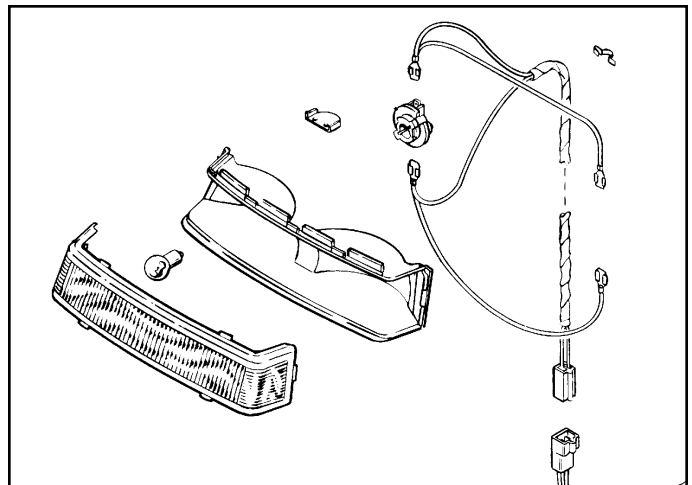

**Figure 34. Interlock Module Location**
1. Unplug and remove the old module (A, Figure 34).